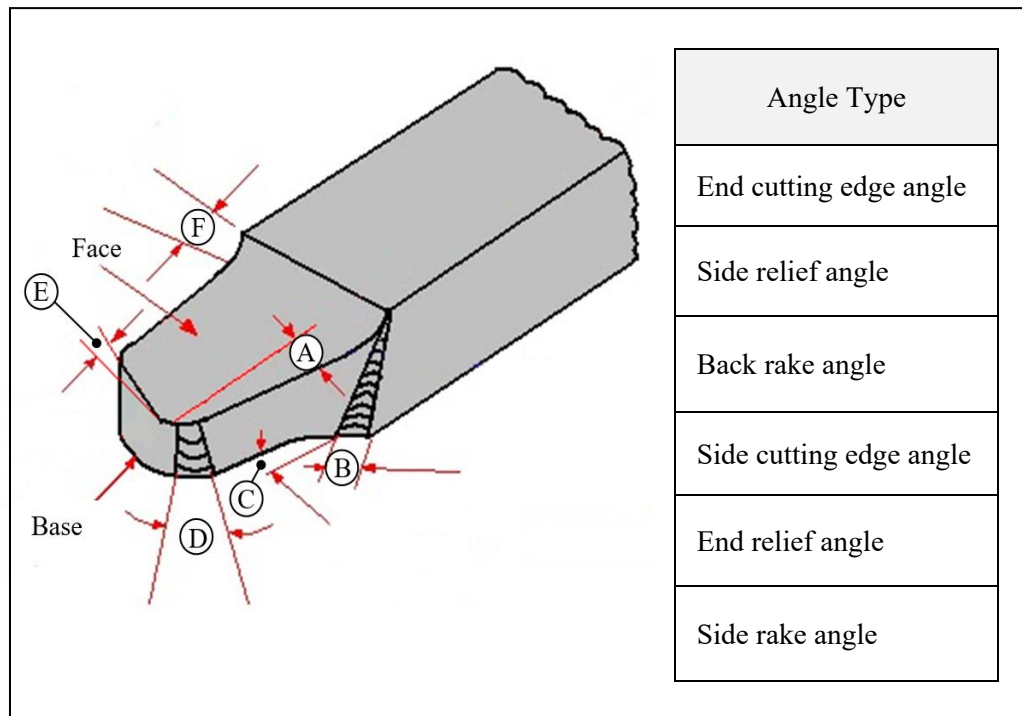

Figure 2b / Rajah 2b
- (b) Based on **Figure 2b**, match **SIX (6)** main angle A,B,C,D,E and F of a cutting tool.
*Berdasarkan **Rajah 2b**, padankan **ENAM (6)** sudut utama A,B,C,D,E,dan F bagi mata alat pemotong.*